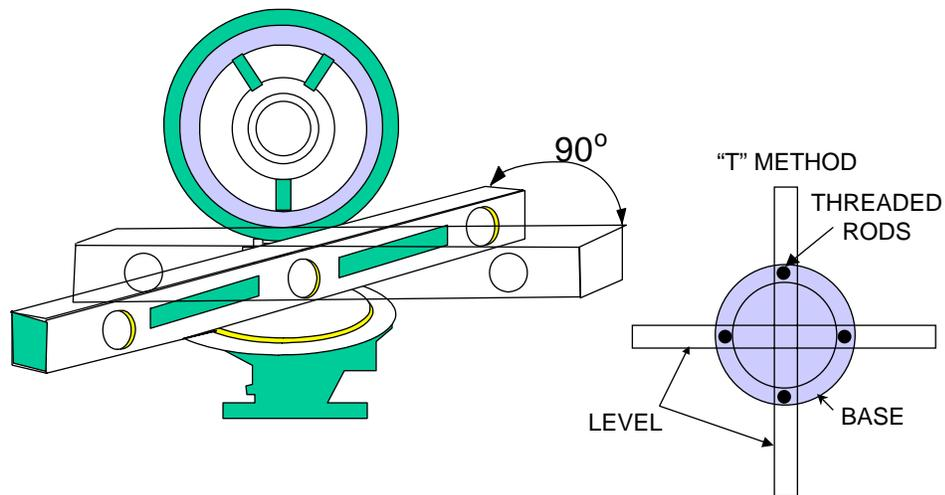

Figure 3-14
- d. With lens open, place a level on the flange of the lantern base. **The bubble level on the lantern shall not be used.** Use the "T" method shown in Figure 3-14 so that adjustment of one leveling bolt won't affect the other adjustment.
- f. Move the level ninety (90) degrees from your first position and readjust.